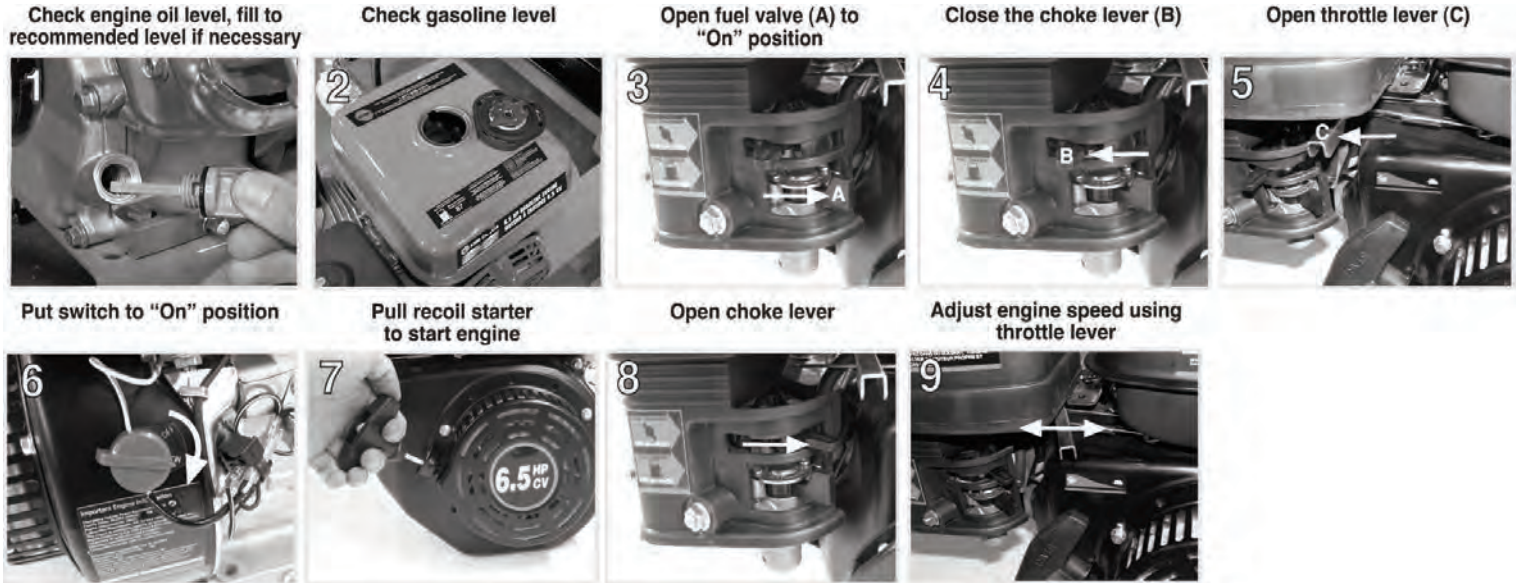

Figure 20
To safely start your engine, follow these steps (Fig.20).
- 1) Move the throttle lever (step 9, Fig.20) towards the right.
- 2) Turn the engine switch (step 6, Fig.20) to the "OFF" position (upwards).
- 3) Close the fuel shut-off valve (step 3, Fig.20) by moving it towards the left.